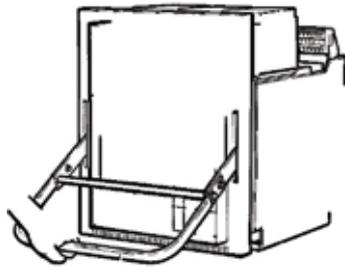

Fig 1
Megamax circuit-breakers were available with 2 different racking in and out mechanisms: Open door (OD) and Closed door (CD). The difference between the 2 solutions is that in the first case (Open door), it is mandatory to open the panel door to rack the circuit-breaker moving part in or out (Fig 1). The racking in/out lever has a “C” shape.